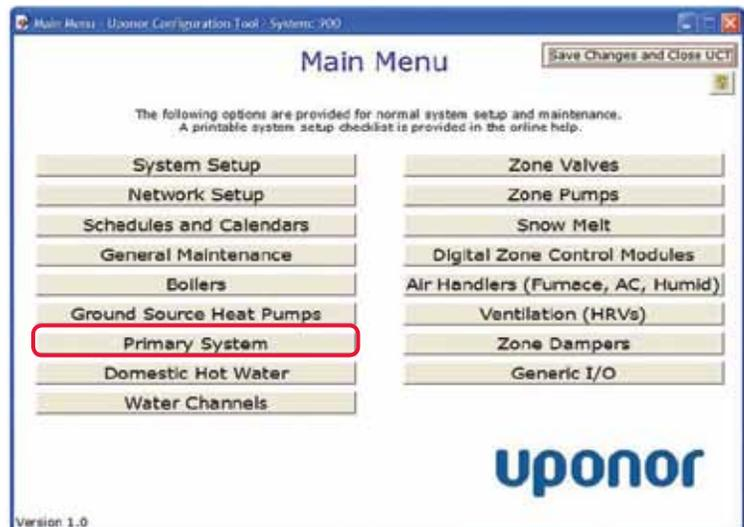
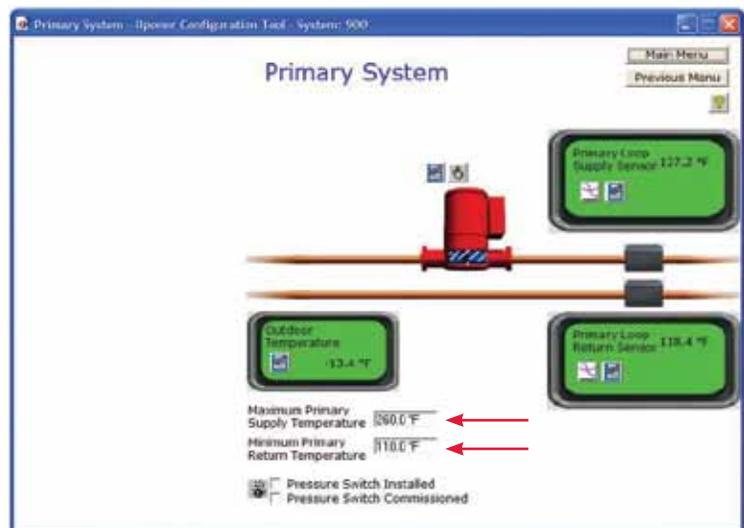

Figure 2.6-1: Main Menu Screen
Figure 2.6-2: Primary System Screen
1. From the **Main Menu**, click the **Primary System** button shown in **Figure 2.6-1**. This will display the Primary System screen, shown in **Figure 2.6-2**.
2. Enter values for the Maximum Primary Supply Temperature and Minimum Primary Return Temperature shown in **Figure 2.6-2**. Note that the text is pink while entering a change and it will change to black when accepted by the PEC.